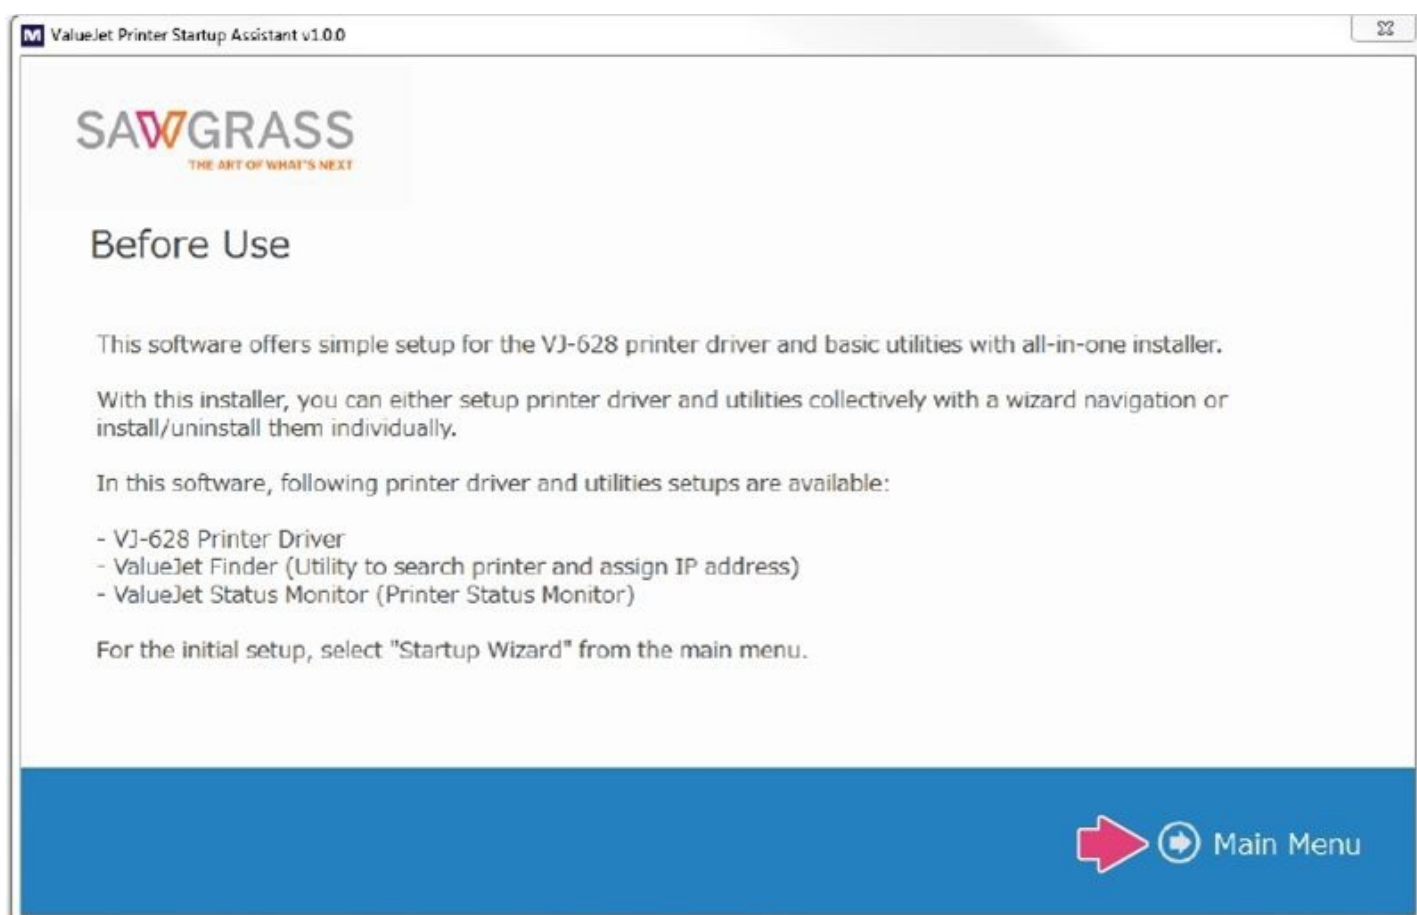

Figure 14
1. The ValueJet Printer Startup Assistant will now guide you through your initial setup. This software offers a simple setup for the printer driver and basic utilities with all-in-one installer. Select **Main Menu** to continue. See Figure 14.